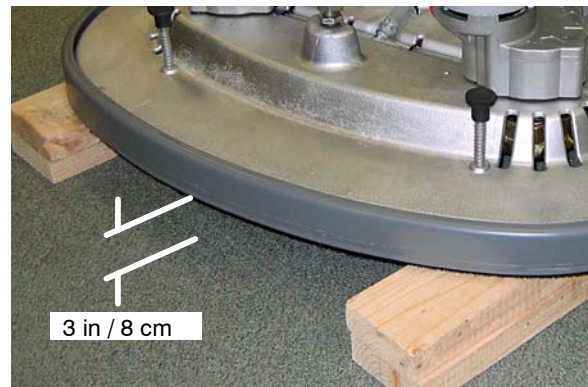

Fig. 7
7. Raise the scrub head off the floor approximately 3 inches / 8 cm (Figure 7).